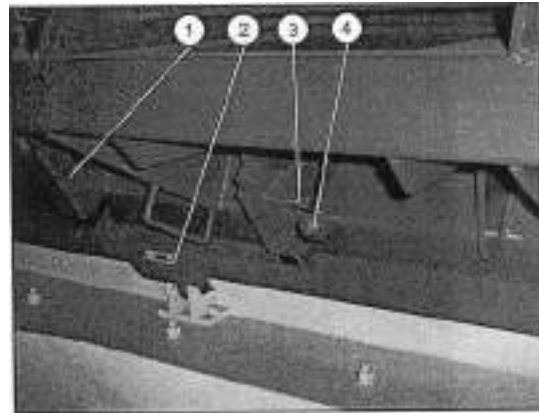

FIGURE 3: MANUALLY ADJUSTABLE SOLE
- Repair any damage or replace if necessary. If a manually adjustable sole is provided, the wear on the manganese steel lower knife of the levelling board may be partially recorded as follows (see Fig. 3):